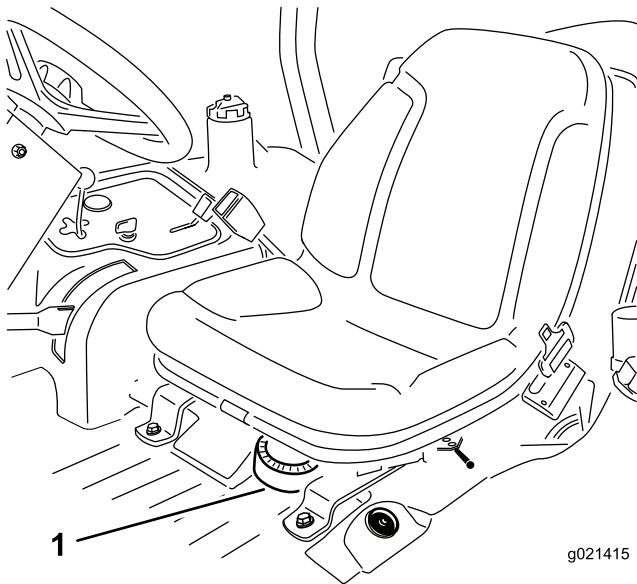

Figure 54
1. Remove the seat from the machine to access the fuel pump (Figure 54).